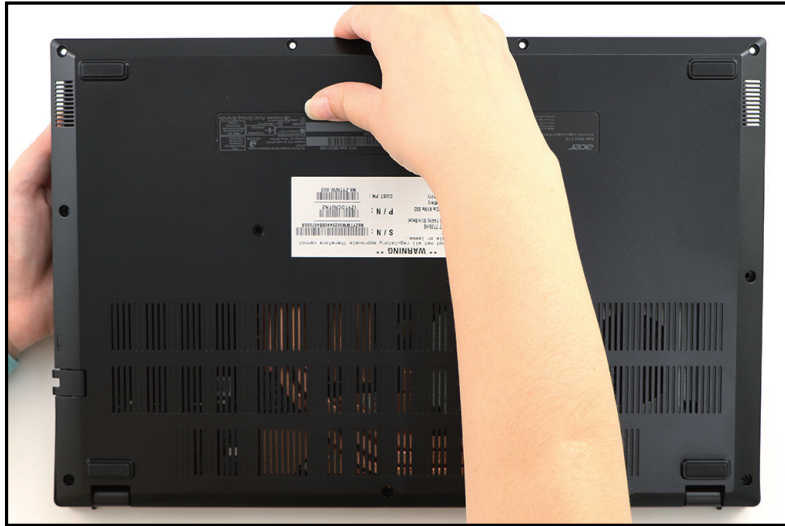

Figure 1-4. Base Cover Removal
3. Continue to release the remaining latches on the left, right, and bottom sides. Then grasp and remove the base cover from the system (Figure 1-4).